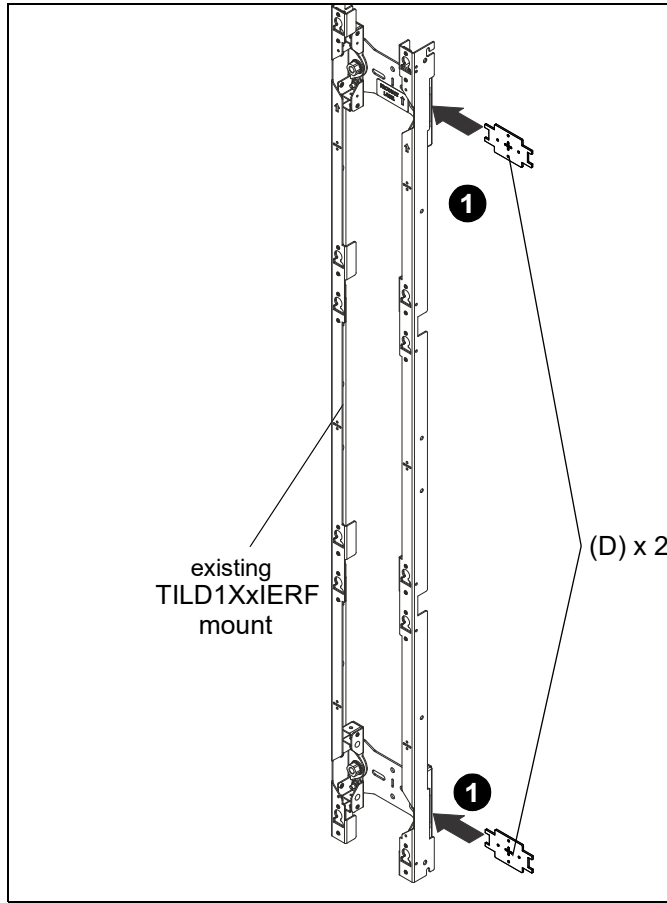

Figure 8
- Slide spacer plates (D) into slots on side of TILD1XxIERF mount where additional TILD1XxIERF mount will be attached. Plates should fit into slots perfectly if aligned correctly. (See Figure 8)